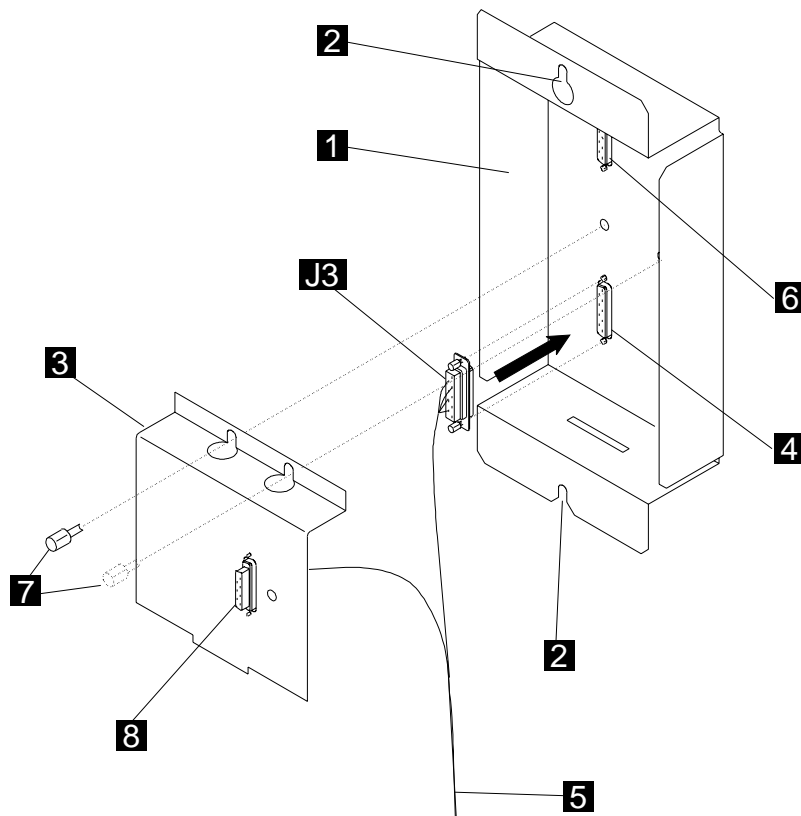

Figure 4-5. Power Control Cable Connection to the 3745 X1A Console Tailgate
- Step a. ____ If present, remove the customer cable plugged in **4** and if necessary the console cable plugged in **6** (see Figure 4-5).
- Step d. ____ Plug the connector **J3** to the plug **4** of the console tailgate **1** (see Figure 4-5).